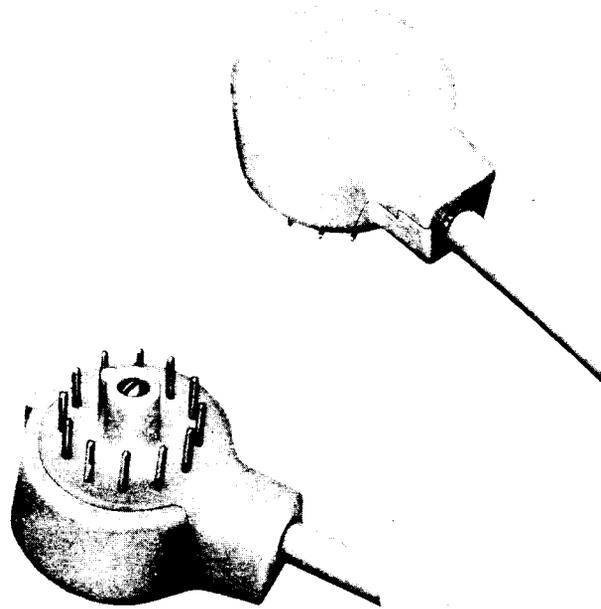

Fig. 23—504A (MD) Plug
2.20 504A (MD) Plug: The 504A (MD) plug (Fig. 23 and 24) is a 12-terminal plug consisting of a molded plastic block, cord tip guide, and cap assembly held together by one screw. Each terminal is equipped with a socket-type connector to receive the cord tip. A cord tip guide covers the terminals. The terminals are numbered 1 through 12 and match numbering on the 541A (MD) jack. The plug can be inserted into the jack in only one position. It was
- ◆Fig. 23 and 24—504A (MD) Plug◆